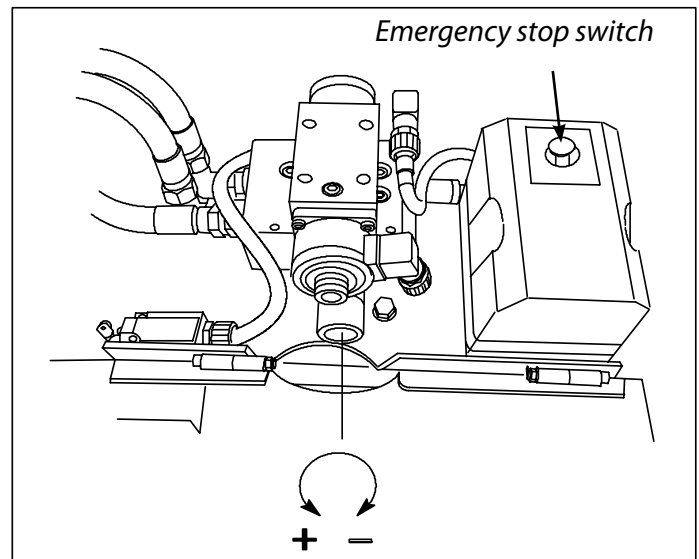

Fig. 14. Adjusting the feed roller speed
- Turn the knob counterclockwise to increase the speed and turn in clockwise to decrease the speed. See fig 14.